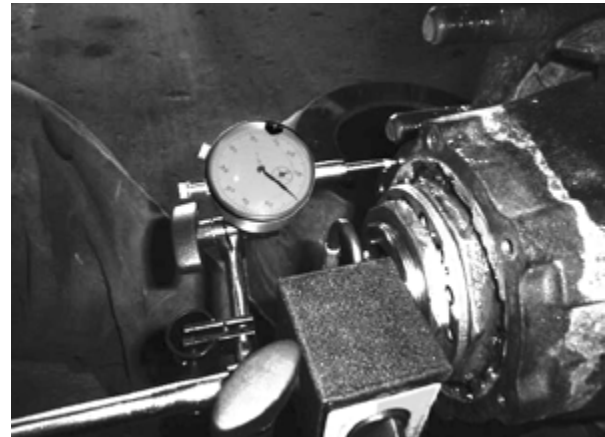

Figure 5: *Checking end play*
Dial Indicator, with mounting stand (resolution to 0.0001", 0.002 mm)	End-play measurement. Refer to <a href="#">Figure 5 on page 9</a> .
4. **Attach** dial indicator (Table 1) with magnetic base to flat surface at end of spindle (Figure 5).